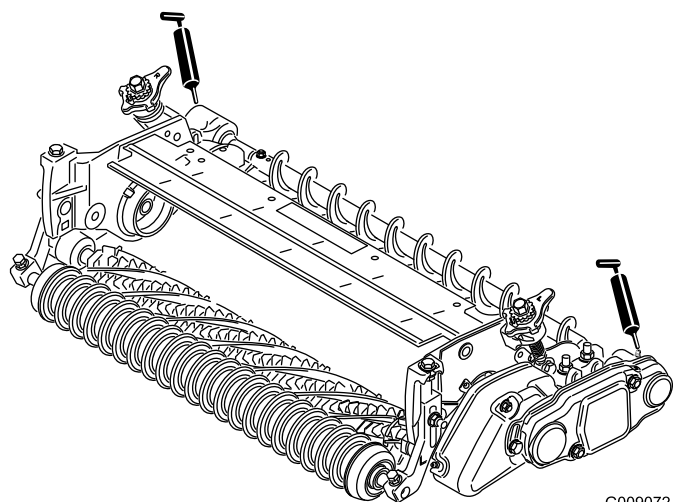

Figure 35
27. Lubricate the grease fittings on each of the roller brush bearing housings and on the remainder of the cutting unit with No. 2 general-purpose, lithium-based grease (Figure 35).